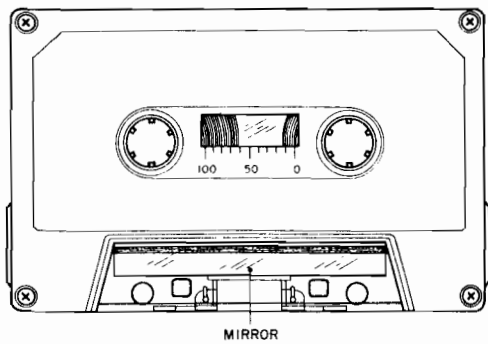

Fig. 57
- 1) When using an ordinary cassette, the tape guides and heads, etc. are not visible. As shown in Fig. 57 use a cassette tape from which part of the cassette case has been cut out and a mirror installed for easy visibility of the head area when making tape guide height adjustment.
4. When a mirror installed cassette test tape as shown in Fig. 57 is required, it can be ordered from AKAI Electric Co.